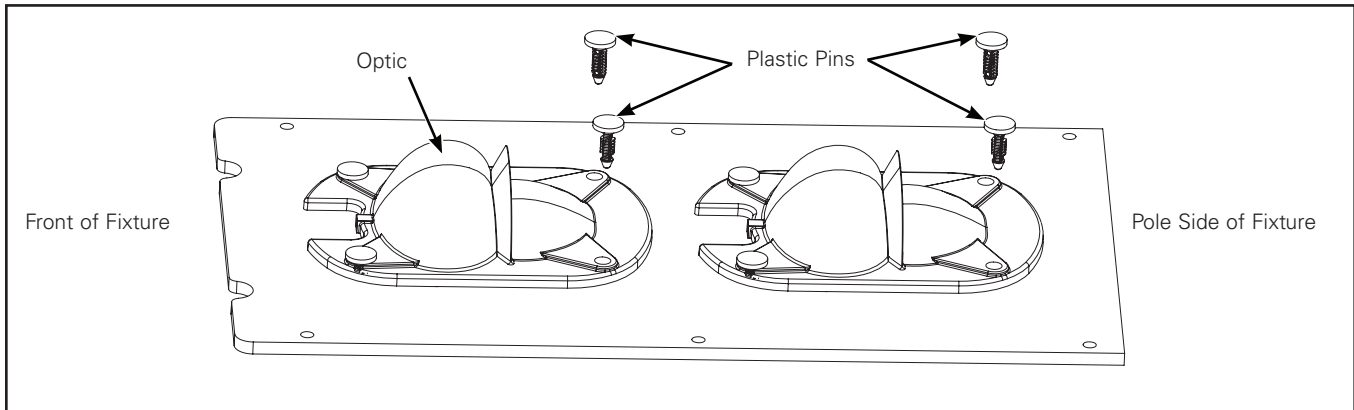
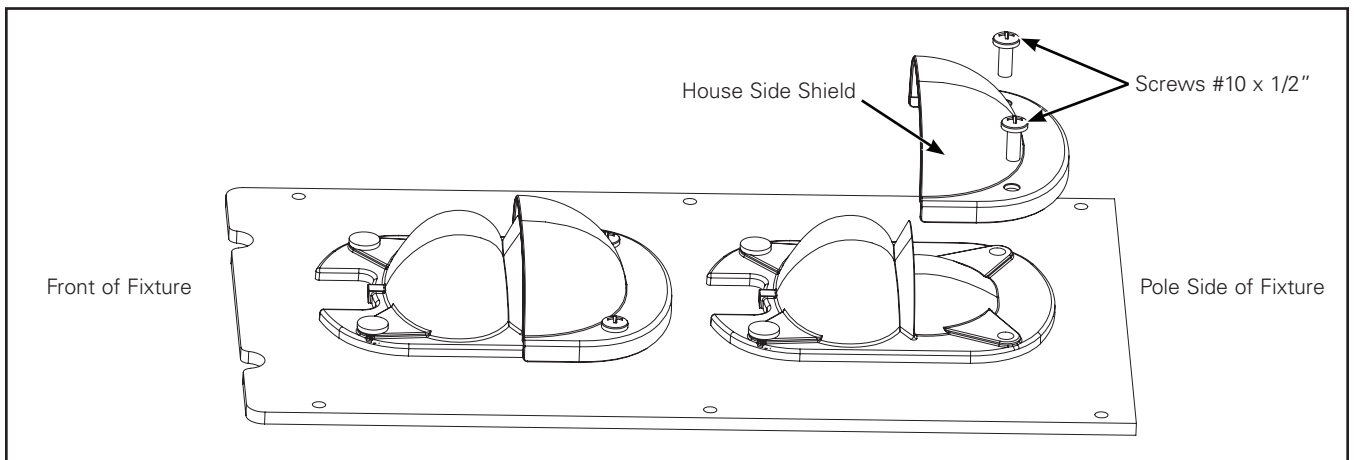

Figure 1.
Figure 2.
### House Side Shield (Figure 1. and Figure 2.)
1. Remove plastic push pins on back side of optic. (Figure 1.)
**Note:** House side shield must ONLY be installed on the back side of the optics as shown in (Figure 2.)